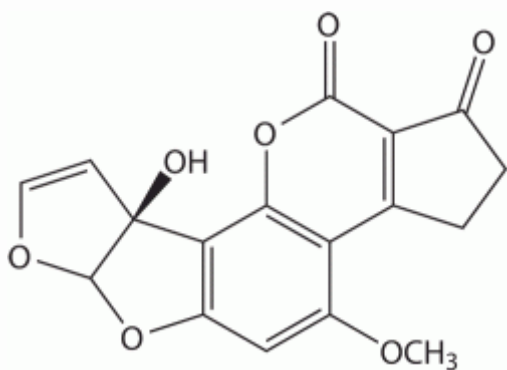

Fig. 1: Structure of Aflatoxin M1
Aflatoxin M1 is a highly toxic mycotoxin which gets formed from aflatoxin B1 within animals consuming it in their feed. The toxin (fig. 1) can be found in milk, dairy products, meat and eggs. Due to the toxic effects on humans, the European Community (EC) has set maximum levels in several matrices in the Commission Regulation (EC) No 1881/2006 and amended by Commission Regulation (EU) 165/2010.